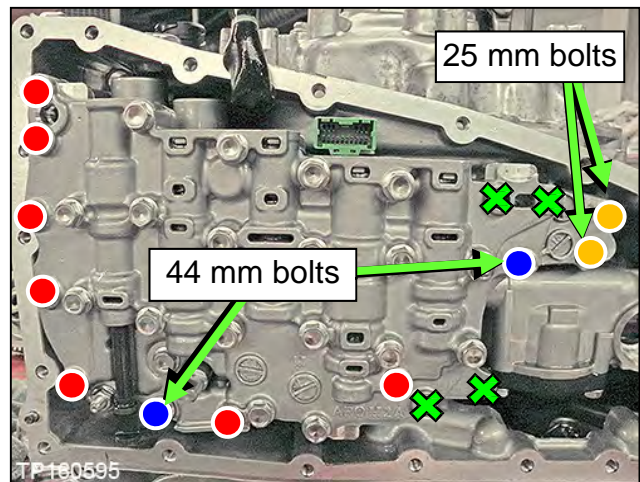

Figure 154
117. Install the Control Valve with eleven (11) mounting bolts (Figure 154).